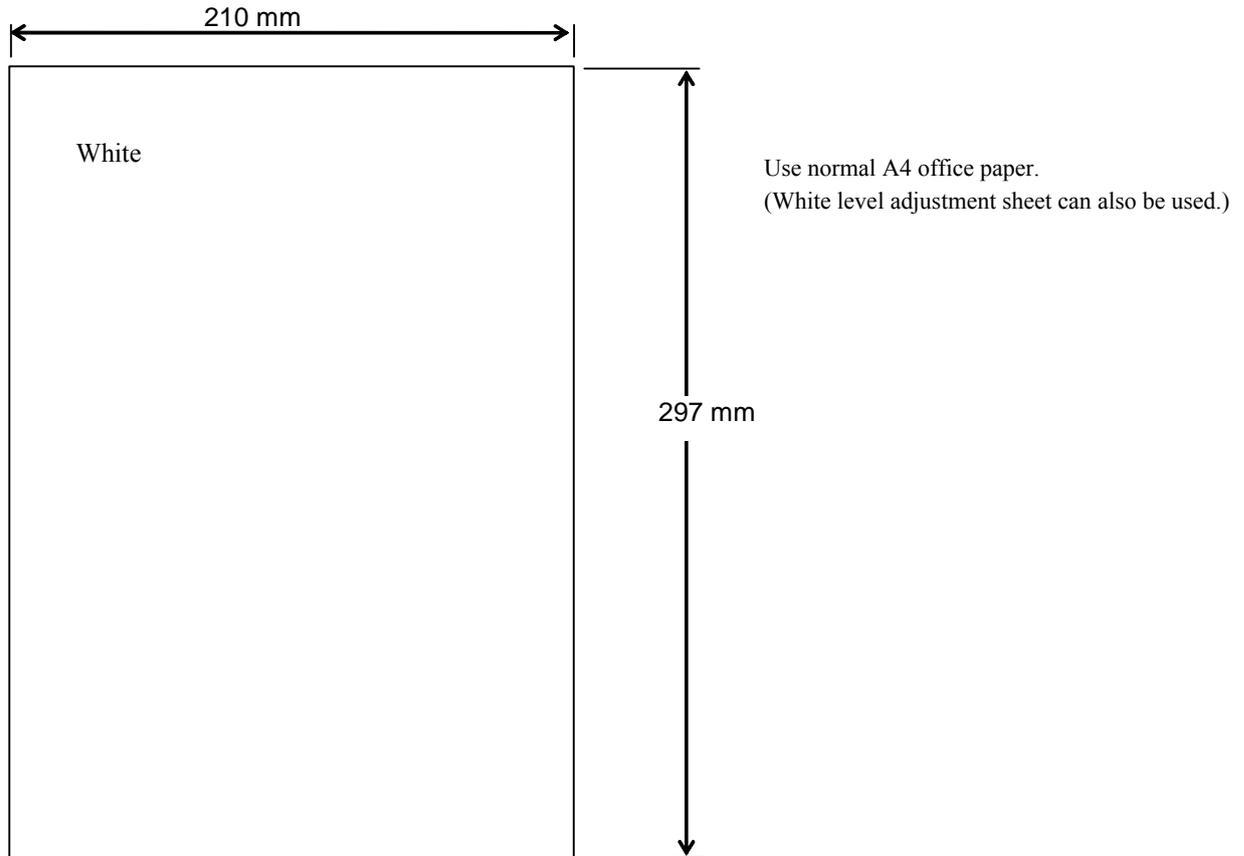

Figure 5-1-3 Test sheet for FB magnification/offset adjustment
Before this adjustment, please prepare the Test sheet described in Figure 5-1-3.
- (2) Change the selection by pressing **Function** button.
- (3) When adjusting the ADF, set the test sheet (Figure 5-1-3) on the ADF paper chute (Chute Unit), and adjust the side guide to the width of the test sheet.
For the FB adjustment, set the test sheet (Figure 5-1-3) on the Document bed to be aligned with the reference point, and remove the Document Cover. (Refer to the Operator's Guide.) Avoid working near light source such as fluorescent lamp.